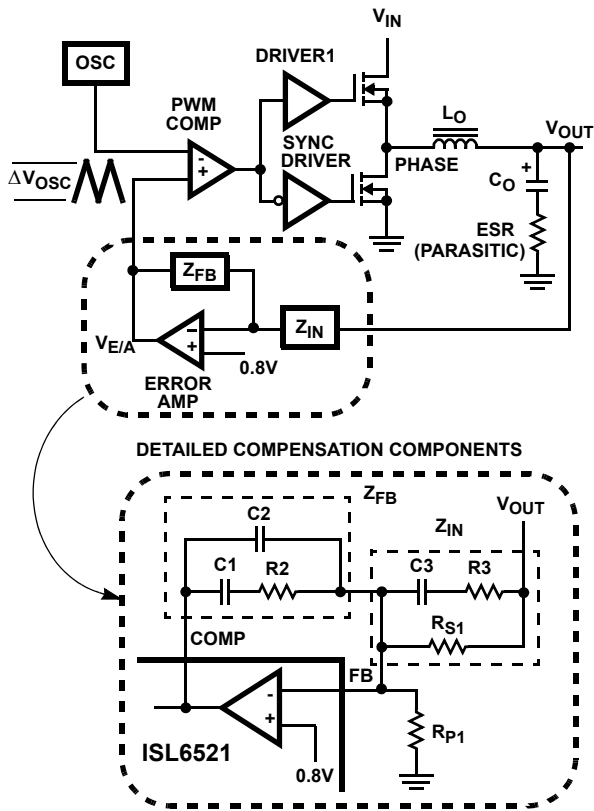
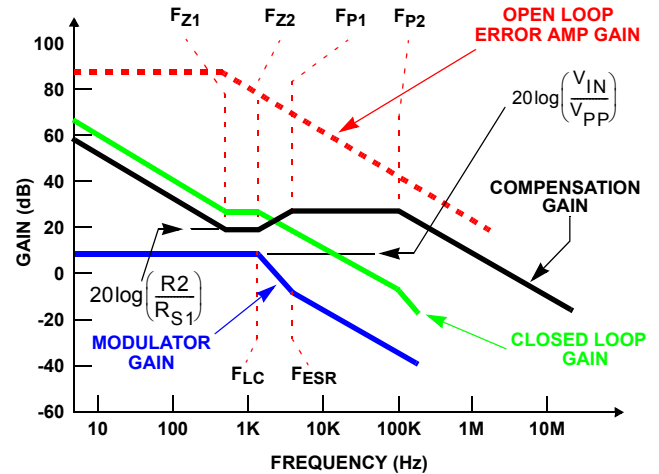

FIGURE 5. VOLTAGE-MODE BUCK CONVERTER COMPENSATION DESIGN
FIGURE 6. ASYMPTOTIC BODE PLOT OF CONVERTER GAIN
and Z_{FB} . The goal of the compensation network is to provide a closed loop transfer function with high 0dB crossing frequency (f_{0dB}) and adequate phase margin. Phase margin is the difference between the closed loop phase at f_{0dB} and 180 degrees. The equations below relate the compensation network's poles, zeros and gain to the components (R_1 , R_2 , R_3 , C_1 , C_2 , and C_3) in Figure 5. Use these guidelines for locating the poles and zeros of the compensation network:
Figure 6 shows an asymptotic plot of the DC-DC converter's gain vs. frequency. The actual Modulator Gain has a high gain peak dependent on the quality factor (Q) of the output filter, which is not shown in Figure 5. Using the above guidelines should yield a Compensation Gain similar to the curve plotted. The open loop error amplifier gain bounds the compensation gain. Check the compensation gain at F_{P2} with the capabilities of the error amplifier. The Closed Loop Gain is constructed on the log-log graph of Figure 6 by adding the Modulator Gain (in dB) to the Compensation Gain (in dB). This is equivalent to multiplying the modulator transfer function to the compensation transfer function and plotting the gain.